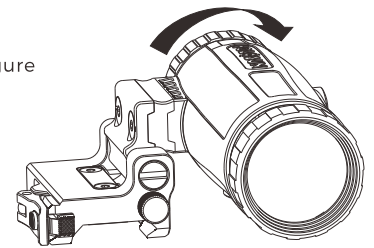

Figure 3
2. The magnifier can be flipped to the side 90 degrees (as shown in Figure 3).
1) Rotate the magnifier 90°, as shown in Figure 3;